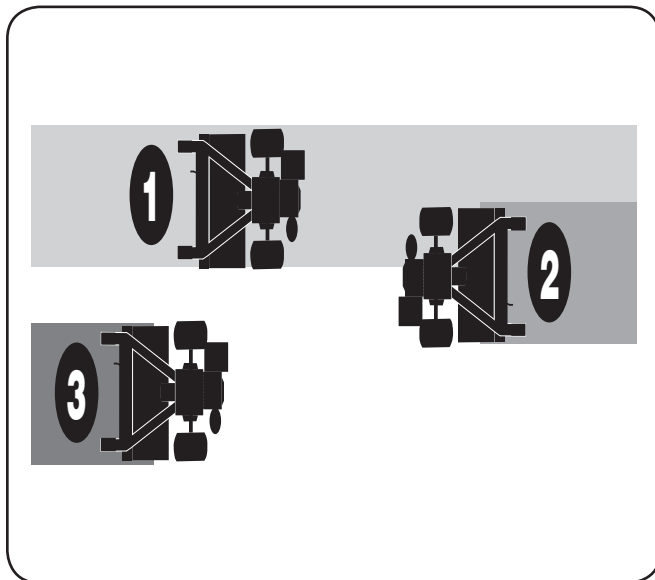

Figure 5-6
- If the garden size will not permit lengthwise and then crosswise tilling, then overlap the first pass by one-half a tiller width, followed by successive passes at one-quarter width. See Figure 5-6.